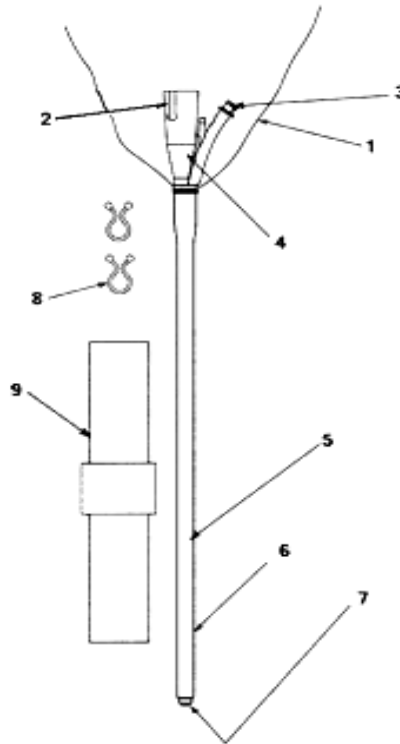

Figure 3-4: CV-1.5 Slide-On® EndoSheath® Technology
- The **CV-1.5 Slide-On® EndoSheath® Technology** (Figure 3-4 on page 18) has a 1.5mm (4.5Fr) channel that supports irrigation, but cannot accommodate the insertion of accessory devices.
The **CV-1.5 Slide-On® EndoSheath® Technology** shown in Figure 3-4 is a sterile, disposable barrier for the Cogentix Medical **CST-5000/5000i** Flexible Video Cystoscope/Hysteroscope. The Sheath isolates the endoscope from contact with patient fluid and material during the procedure, and supports irrigation, but does not support accessory instrument passage.